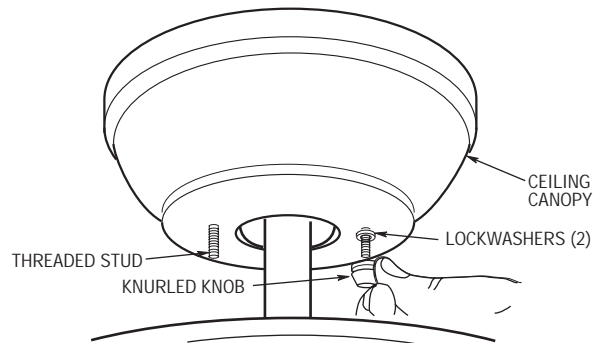

Figure 19
4. Lift the ceiling canopy up to the threaded studs and turn until studs protrude through the holes in the ceiling canopy (Figure 19).
5. Secure the ceiling canopy in place by sliding #8 lockwashers over the threaded studs and installing the two #8-32 knurled knobs (supplied) (Figure 19.) Tighten the knurled knobs securely until the ceiling cover fits snugly against the ceiling and the hole in the ceiling canopy is clear of the downrod. Your fan is now wired to be turned on and off from the fan switch.